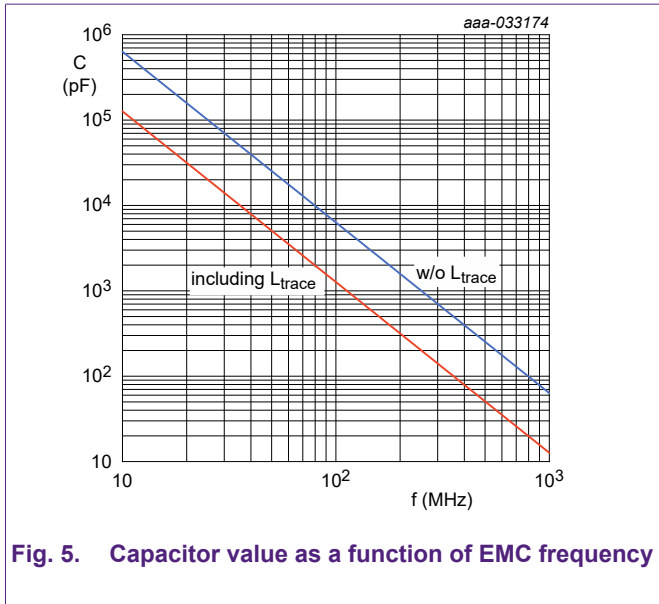

Fig. 5. Capacitor value as a function of EMC frequency
In DC applications, where the EN pin is driven by a DC voltage, there is typically no emission spectrum expected. However, in the presence of external electromagnetic (EM) waves the enable pin can be disturbed which can then lead to significant deviation of the LED current. To prevent this, a capacitor placed as close as possible to the enable pin can be used, see Fig. 4. The value of this capacitor can be chosen according to the frequency where the disturbance is expected, see Fig. 5.